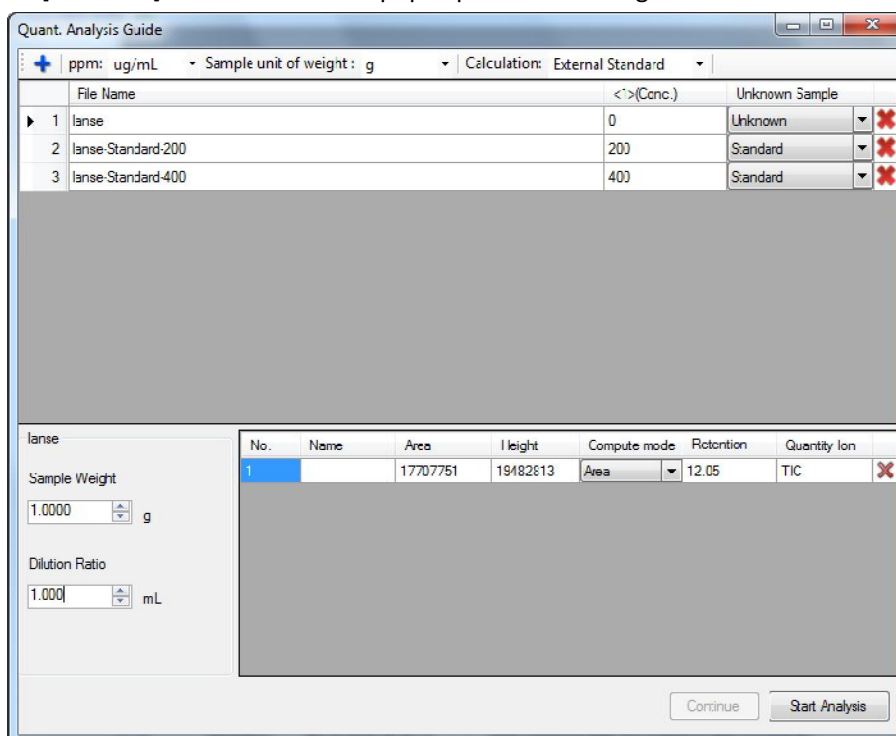

Figure 7-17 Quantitative Analysis Guide
- (2) Select a data file and click [Add] to add it to the below textbox.
- (3) Select a data file in the below textbox, press the Delete key on the keyboard to delete the selected file.
- (4) Under the Quantitative mode, TIC or corresponding quantitative ions can be selected in the [Quantitative Ion] box.
- (5) Click [Continue] and a window will pop up as shown in Figure 7-17.